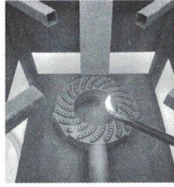

FIG. 1
1. Hold an extended lighter flame near the burner. Slowly open the regulator valve on the stove (FIG. 1).